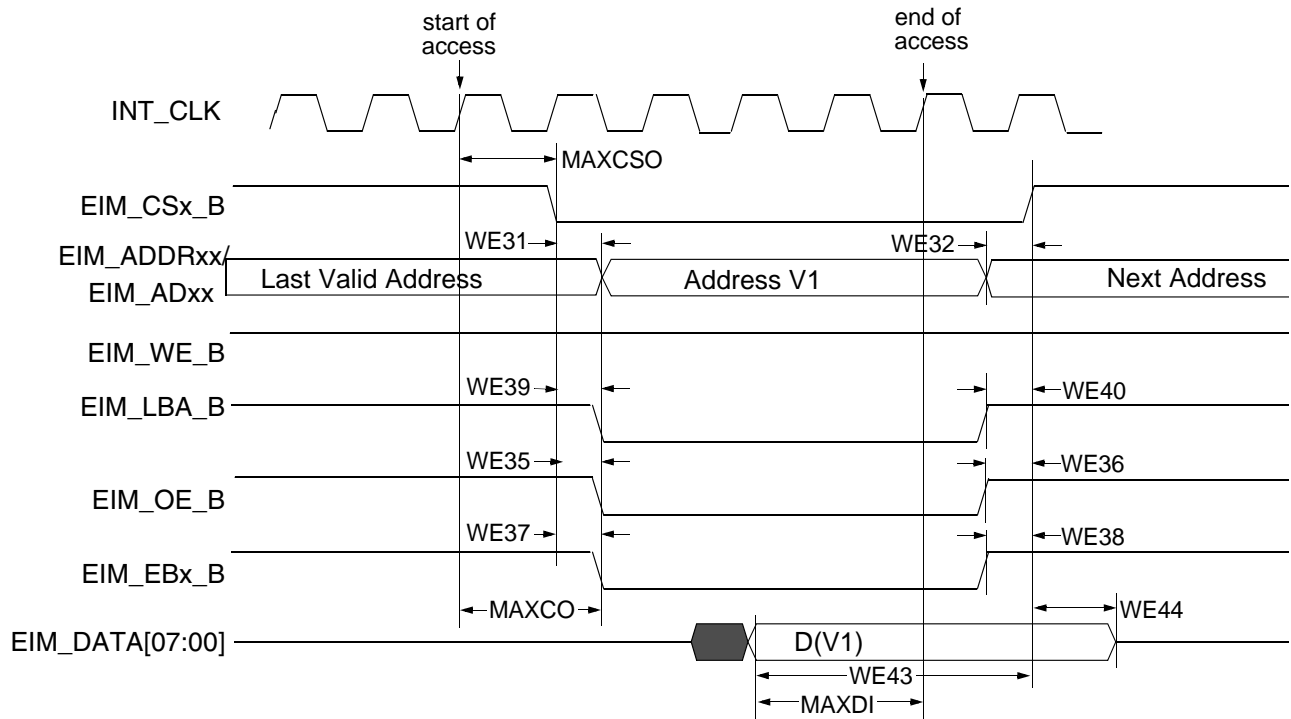
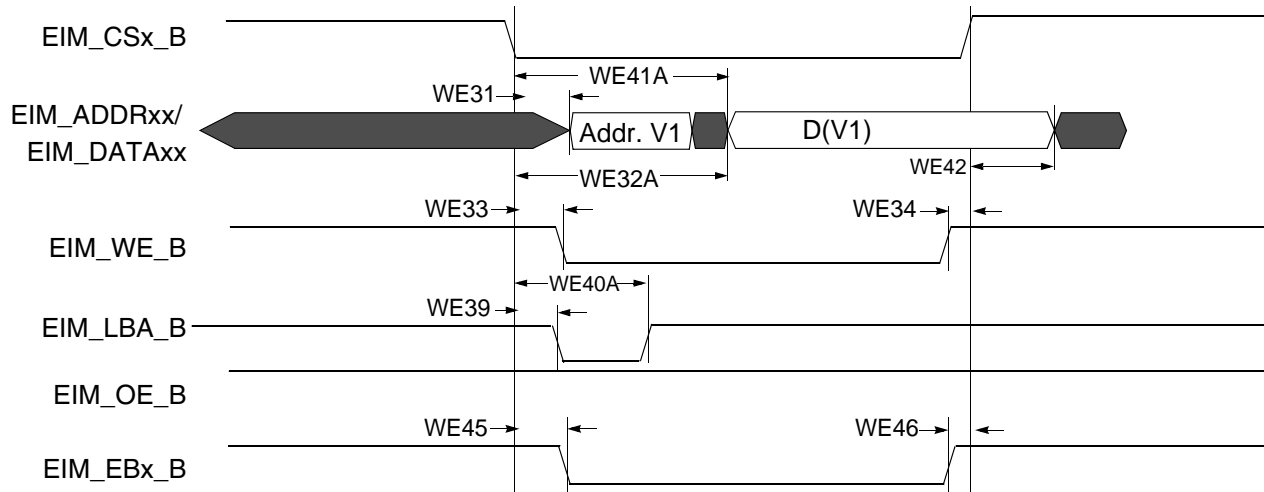

Figure 18. Asynchronous Memory Read Access (RWSC = 5)
Figure 21. Asynchronous A/D Muxed Write Access
Figure 18 through Figure 22 and Table 41 provide timing parameters relative to the chip select (CS) state for asynchronous and DTACK EIM accesses with corresponding EIM bit fields and the timing parameters mentioned above.
Asynchronous read & write access length in cycles may vary from what is shown in Figure 18 through Figure 21 as RWSC, OEN & CSN is configured differently. See the i.MX 6Dual/6Quad reference manual (IMX6DQRM) for the EIM programming model.